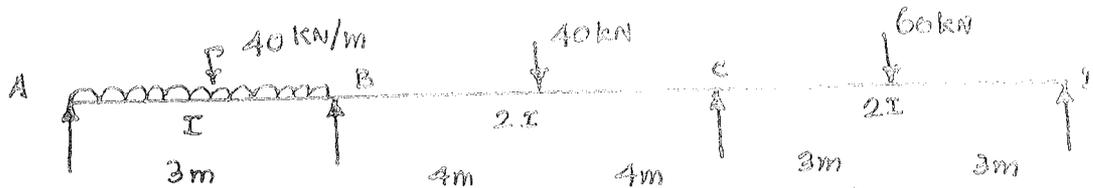

Fig. 2
12. (a) Analyse the continuous beam for moments by the flexibility method. The beam is shown in Fig. 2.